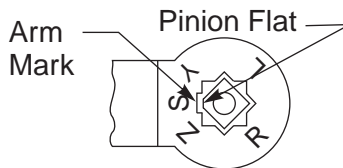

Figure 1
A. Install main arm onto pinion shaft of unit at a 90° angle to the door frame. Align arm mark "S" with the flat corner of the pinion shaft square (see figure 1 at right).